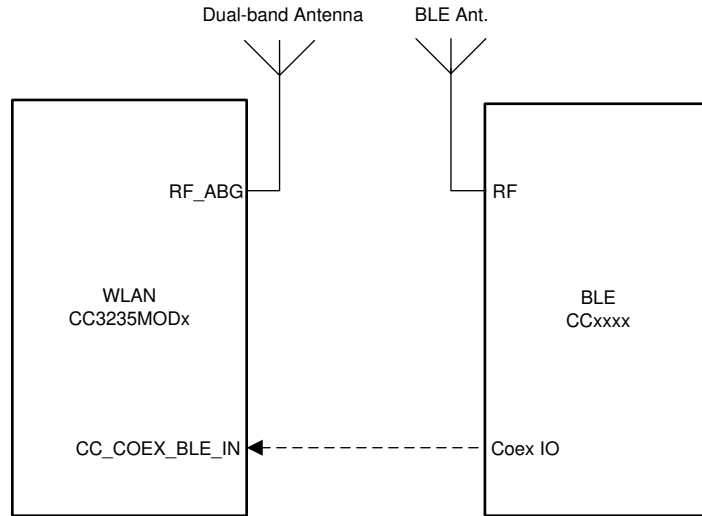

Figure 7-1. Dual-Antenna Coexistence Mode Block Diagram
- Dual-band Wi-Fi (see Figure 7-1)
Figure 7-1 shows the dual antenna implementation of a complete Bluetooth® low energy and WLAN coexistence network with the WLAN operating on either a 2.4- or a 5 GHz band. Note in this implementation a Coex switch is not required and only a single GPIO from the BLE device to the CC3235MOD device is needed. In addition, the CC3235MODx's antenna is external while the CC3235MODAx's antenna is integrated.